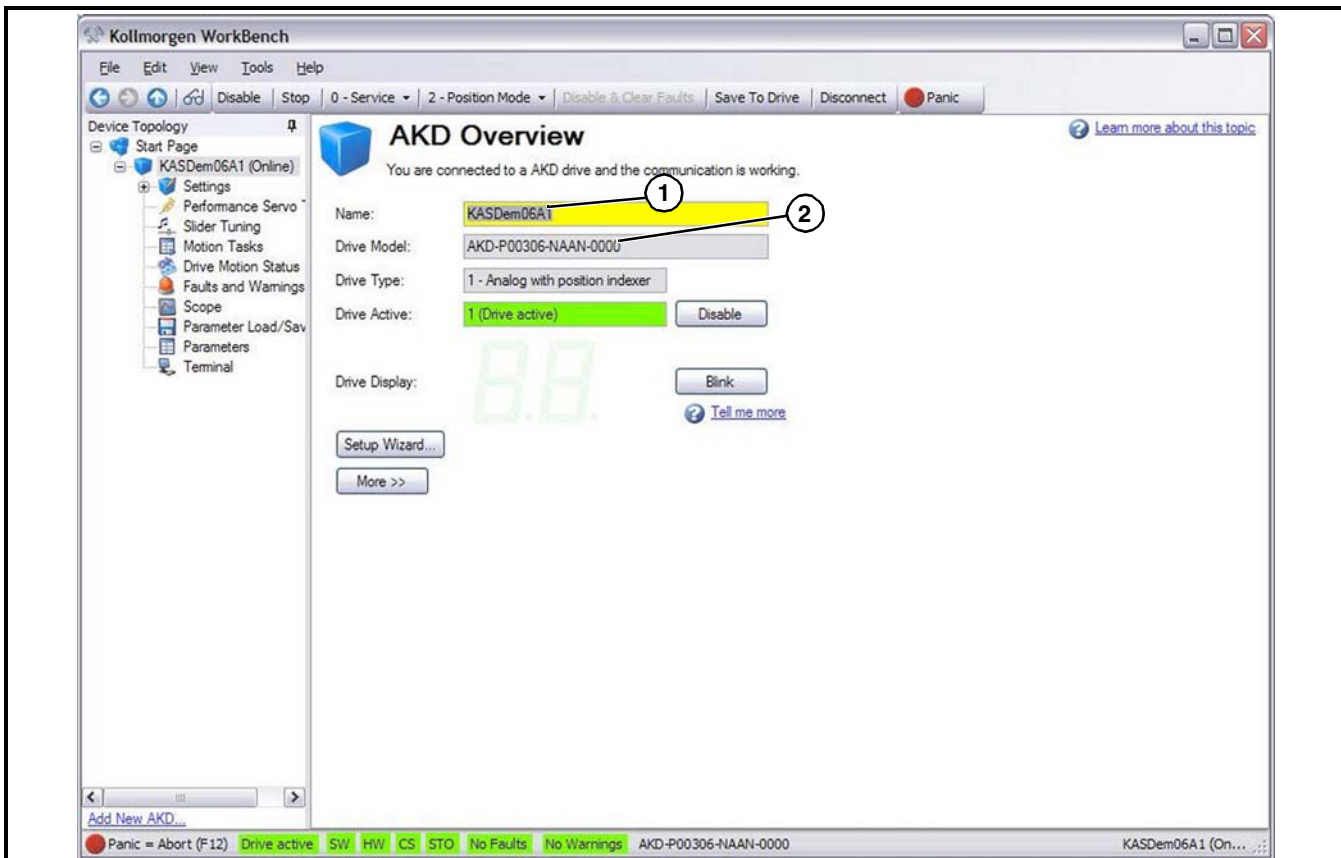

Figure 38
Name: Give the drive a name in field (**Figure 38, item 1**) if it does not already have one.
Drive Model: Do not change field (**Figure 38, item 2**). When connected, this will fill in automatically.